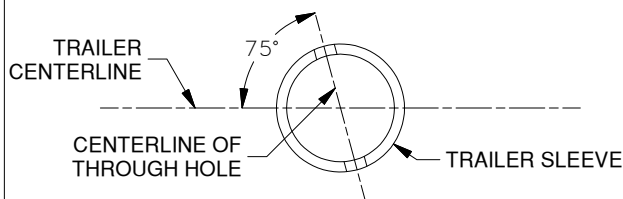

Figure A1: Trailer sleeve hole orientation.
- 1. Check compatibility.** Measure your towing equipment to ensure that it is compatible. The ball must be an SAE 2-5/16" ball having a 2.283 to 2.313 inch diameter. The trailer tongue must be equipped with a conventional 4" inside diameter round sleeve. At a minimum, the sleeve must have at least one set bolt with jam nut and a through pin, or two set bolts with jam nuts. It is recommended, if possible, that a through pin be used to ensure that the coupler tube cannot rotate. Drill a 7/8" through hole in the coupler sleeve if necessary. Coupler must be mounted so that it is aligned with the centerline of trailer, see Figure A1.